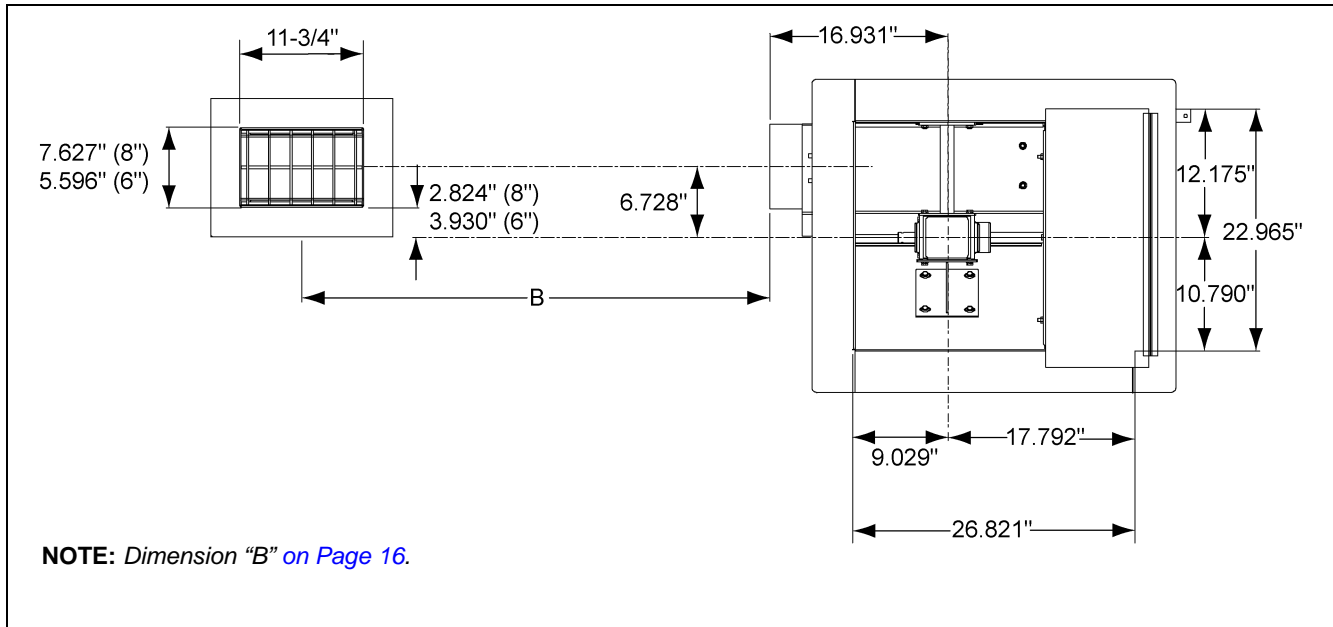
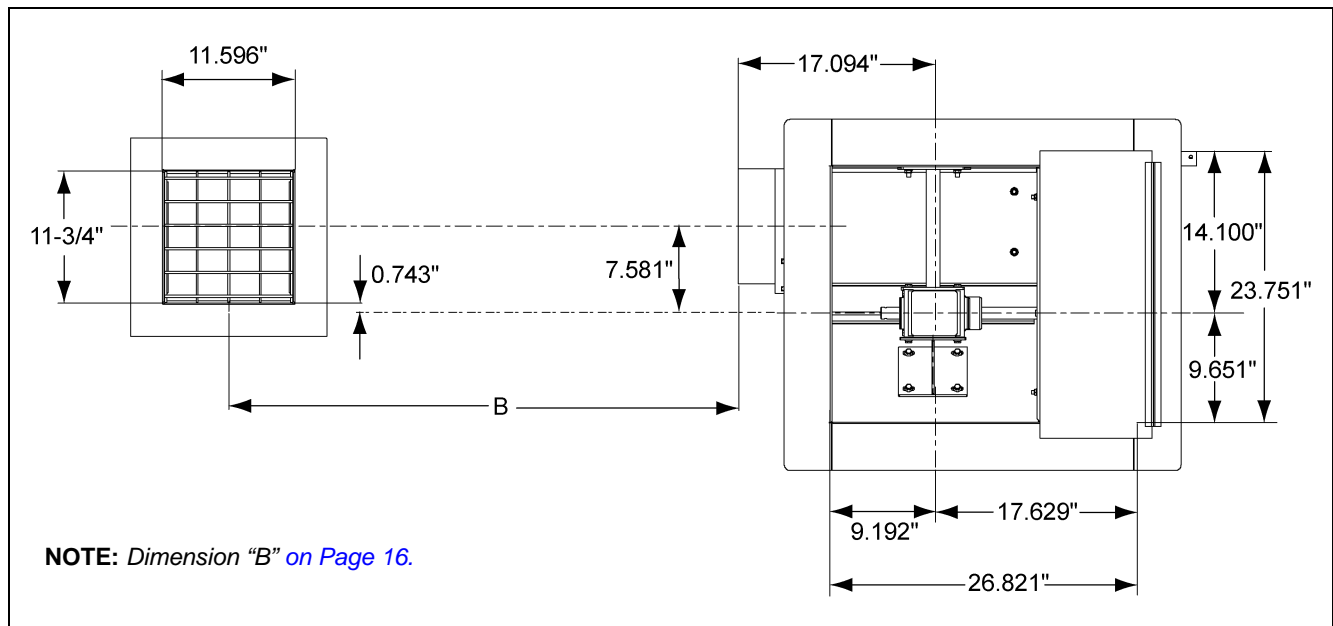

Figure 4B 6" and 8" (15.24 cm 20.32 cm) Center and Intermediate Well(s) Bin Floor Cut-outs
Figure 4C 10" (25.40 cm) Center and Intermediate Well(s) Bin Floor Cut-outs
1. Locate the center of the bin and make a cut-out in the bin floor for the center well. See Figure 4B for cut-out size and location of 6" and 8" wells. See Figure 4C for 10" wells. Locate the vertical shaft between the gearboxes in the center of the bin. Place suitable supports under the center well to hold it in position.
1. Cut openings in the bin floor for the intermediate wells. *See Figure 4B and Figure 4C on Page 15.*